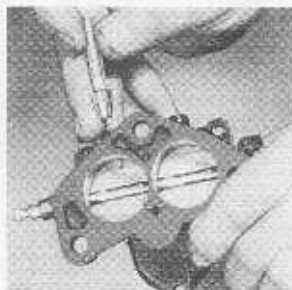

Fig. 27
**33** Clean out the idle adjustment screw holes into throat using hand chuck #9518-E and #9518-F drill (0.046") as shown in Fig. 27.